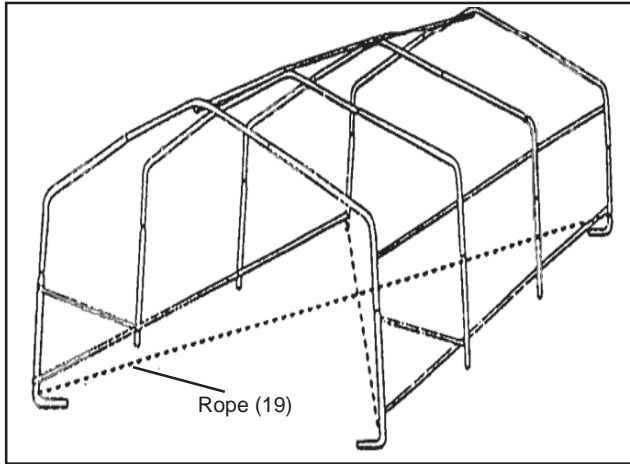

Figure 7
When the RV Shelter frame is assembled, and in its final location, use the Rope (19) to measure the distance between opposite corners, see **Figure 7**. Mark the rope and check the distance of the other two corners; the distance should be the same. If not, adjust the frame until it is.